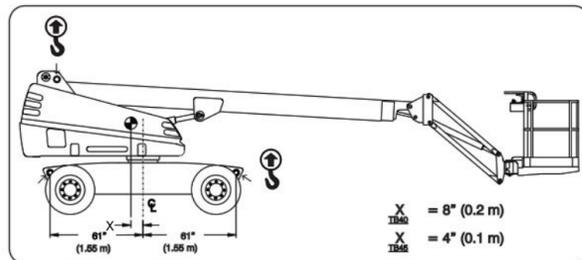

Figure 3-8. 45T Lifting Points
**When lifting the MEWP, lifting devices must be attached to designated lift points only (refer to Figure 3-8).**
4. Properly adjust rigging to ensure MEWP remains level during lifting. See Center of gravity location (Figure 3-8).